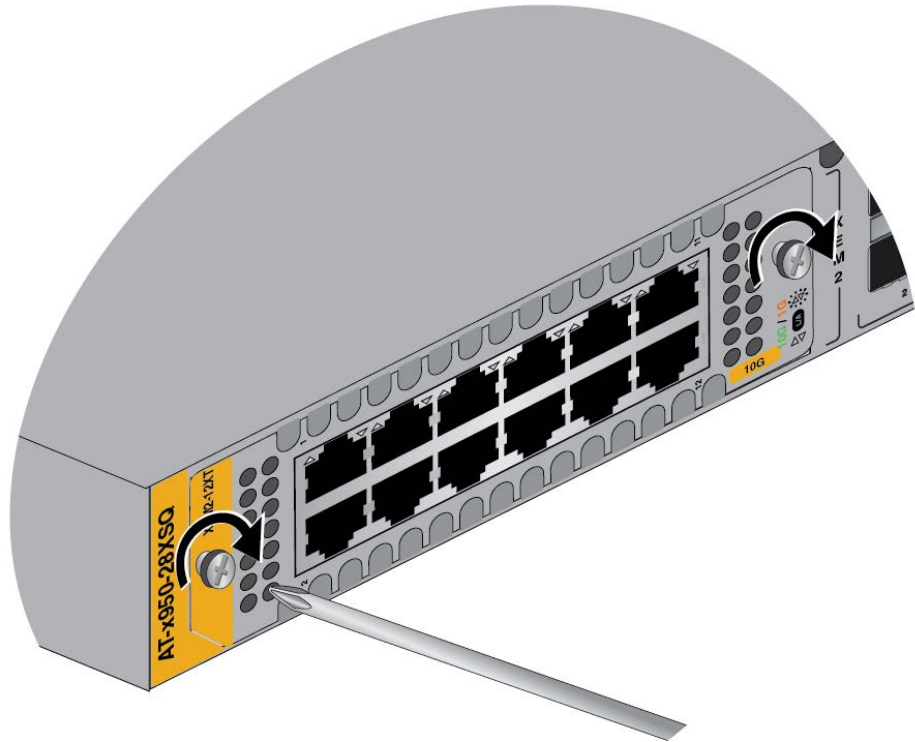

Figure 78. Tightening the Two Captive Screws on the XEM2 Line Card
6. Tighten the two captive screws on the card to secure it in the switch. Refer to Figure 78 on page 144.